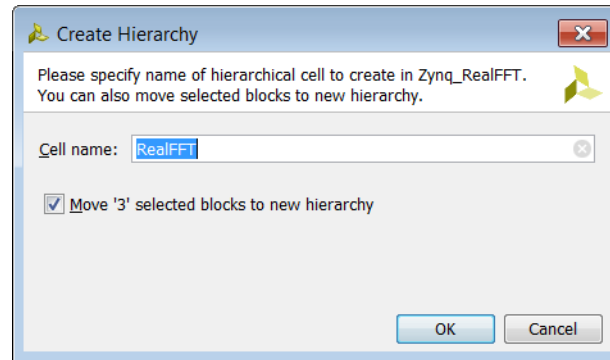

Figure 10-29: Name Hierarchy Block
- d. Ensure that the **Move '3' selected blocks to new hierarchy** option is checked, as shown in Figure 10-29.